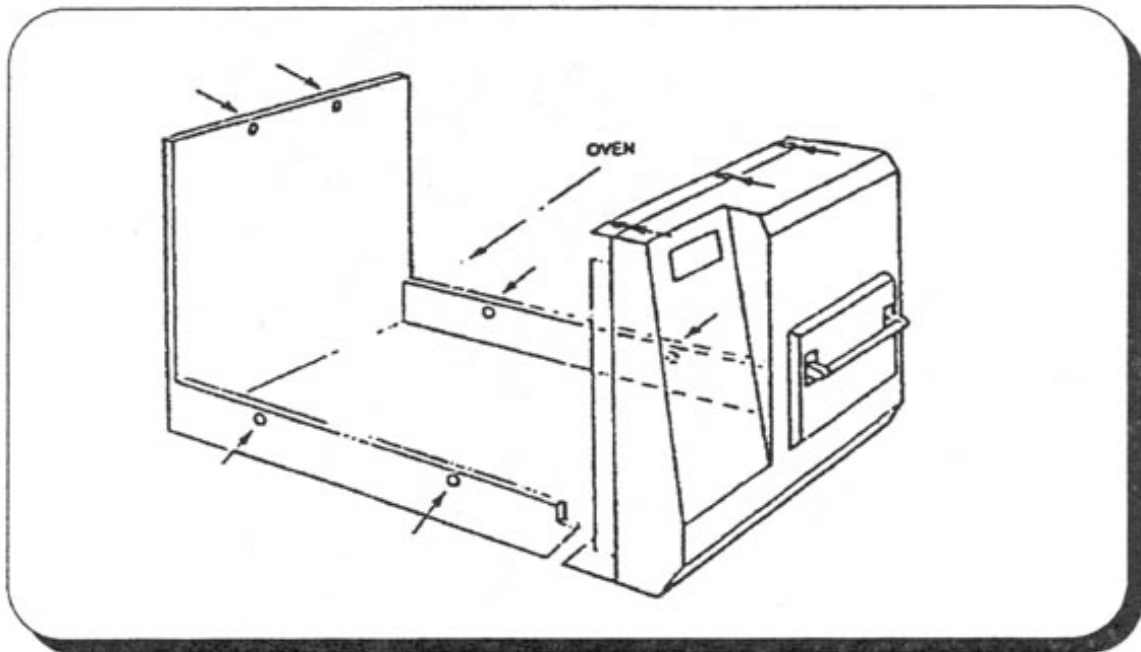

Figure 6-2. System Cabinet Screw Locations
3. Remove the top cover of the system cabinet. See **Figure 6-2** for the location of the screws.